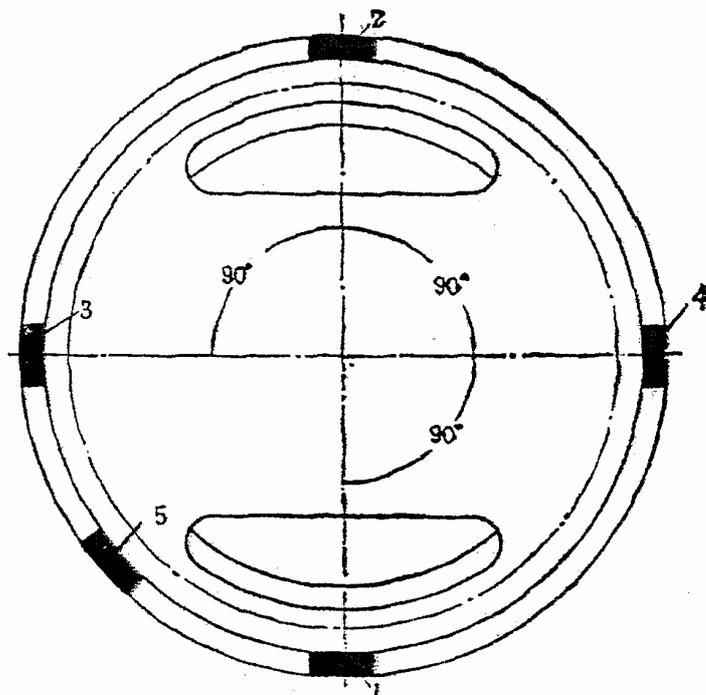

Fig. 14 Disposition of piston rings gap
set each piston ring notch in cross position (Fig. 14)
4. Coat clean oil on side surface of piston, set each gap of piston ring in cross position (Fig. 14), then install cylinder.